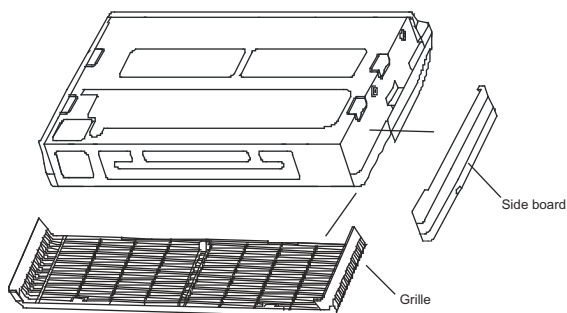

Fig.49-9
1. Remove the side board and the grille. (Refer to Fig.49-9)